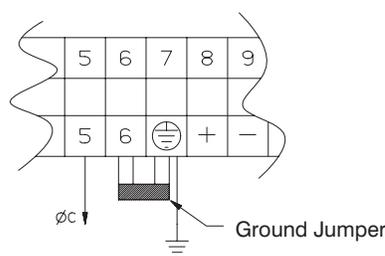

Figure 18. Grounding Jumper
5. Locate the grounding jumper between terminals 6 and 7 as shown in Figure 18.